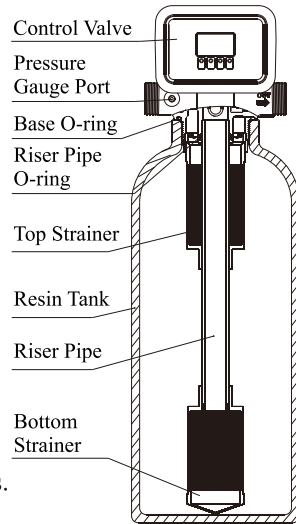

Figure 1-1
- ①The filter or softener should be located close to drain.
- ②Ensure the unit is installed in enough space for operating and maintenance.
- ③Brine tank need to be close to softener.
- ④The unit should be kept away from the heater, and not be exposed outdoor. Sunshine or rain will cause the system damage.
- ⑤Please avoid installing the system in one acid/alkaline, magnetic or strong vibration circumstance, because above factors will cause the system disorder.
- ⑥Do not install the filter or softener, drain pipeline in circumstance which temperature may drop below 5℃, or above 50℃.
- ⑦Install the system in the place where with the minimum loss in case of water leaking.
① Install control valve
b. As the Figure 1-1 shows, insert the riser pipe to the bottom strainer, glue the connection part, and put it into the bottom tank, cut off the exceeding pipe out of tank top opening.